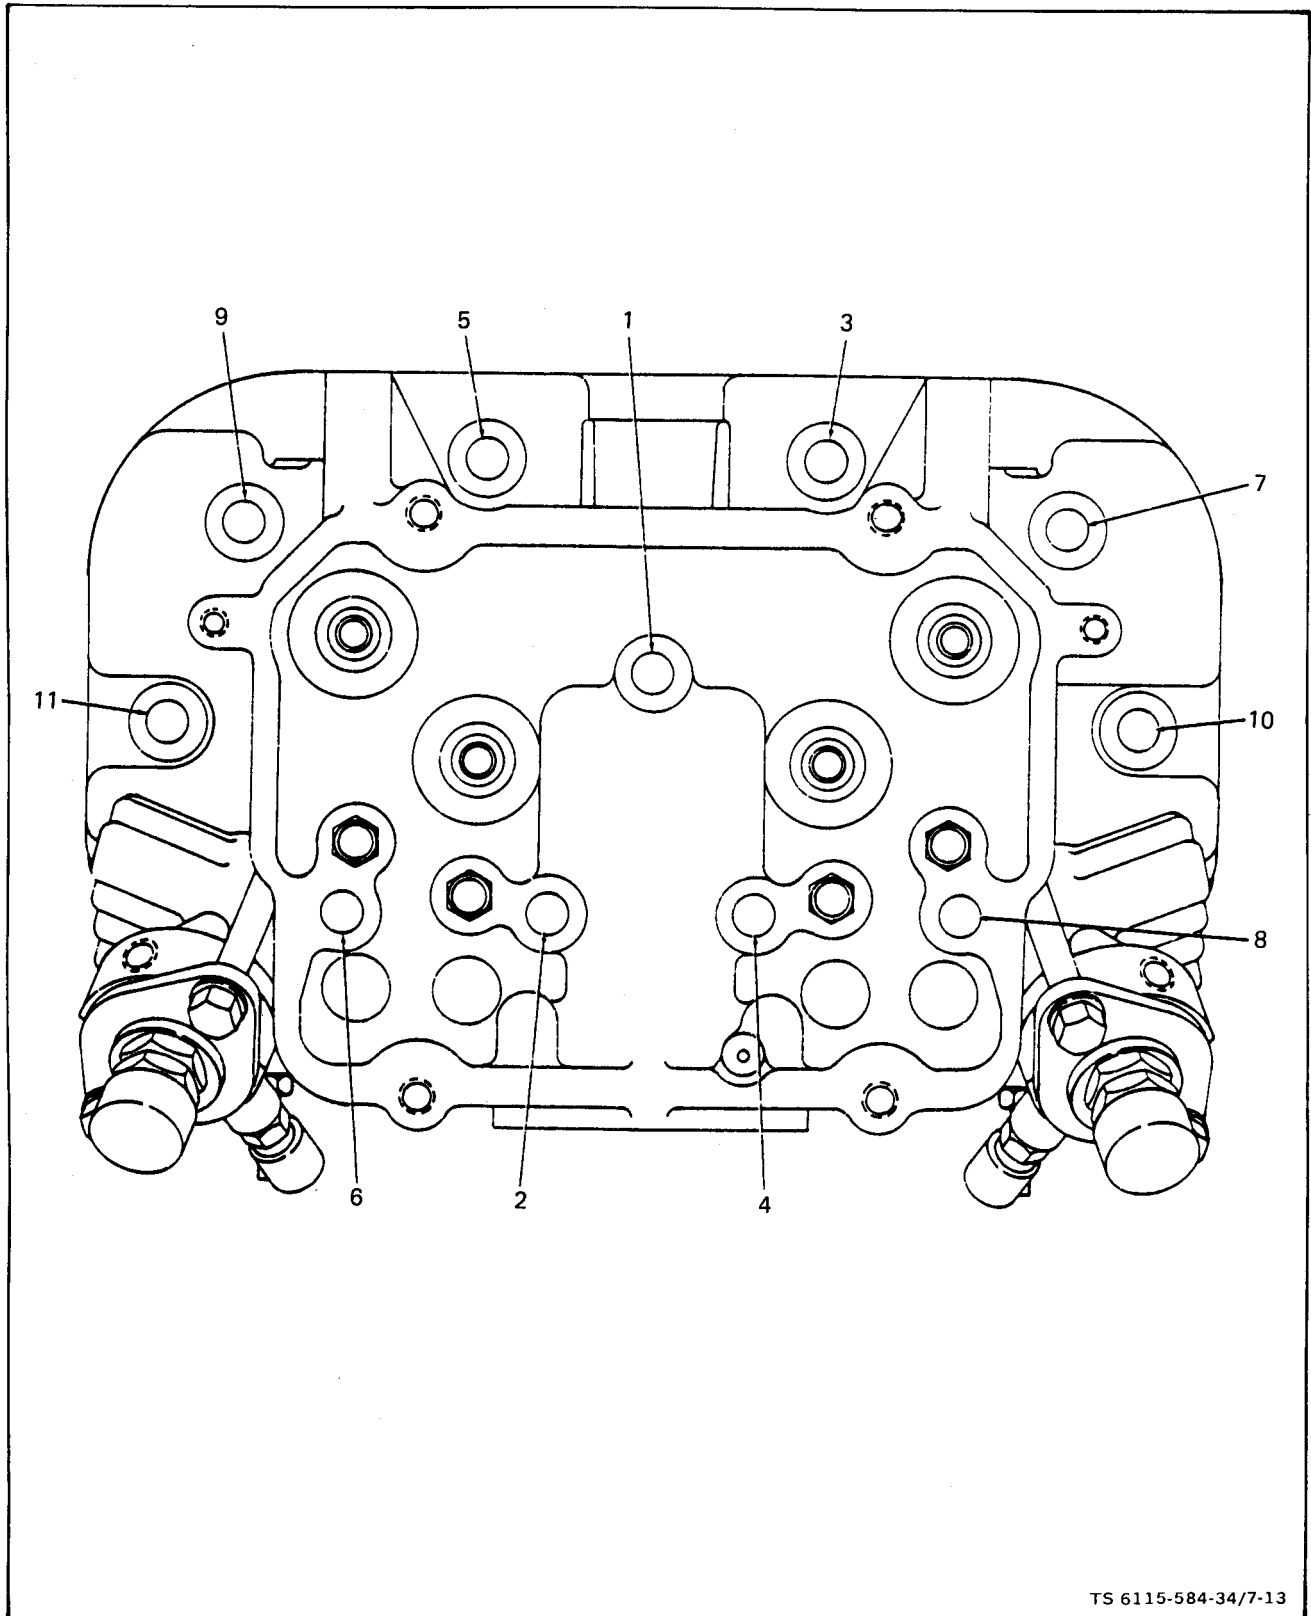

Figure 7-13. Cylinder Head Bolt Tightening Sequence
(1) Place head assembly (8) and gasket (10) on cylinder block (9). Install springs (18), washers (19) and packings (16) on push rod shields (17) and install assembled push rod shields in cylinder block. Lift back side of cylinder head and place push rod shields in place, lower cylinder head in place. Use an anti-seize compound on head bolt threads and thread bolts (4 and 6) and washer (7) into cylinder block (9).
(2) Refer to Operator and Organizational Maintenance Manual and install intake manifold. Torque bolts 13-15 ft-lbs (see table 1-1). Bend over lock tabs. Now tighten head bolts 44 to 46 ft-lbs (see table 1-1) following the sequence in figure 7-13.
(6) Install cylinder head using proper bolt tightening sequence (see figure 7-13).